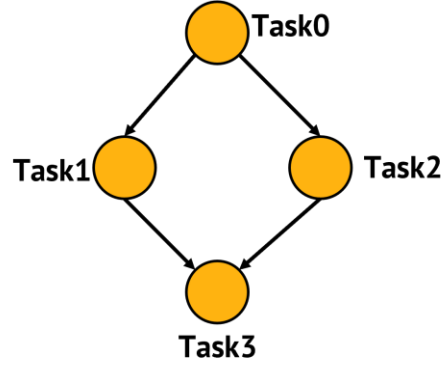
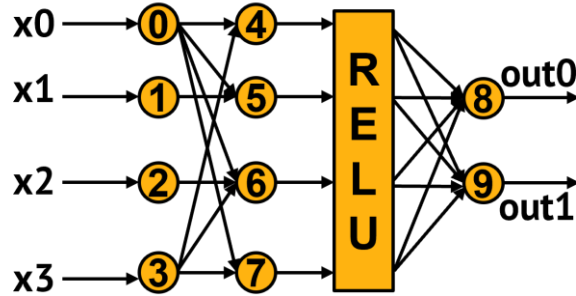

Figure 1: Structure of the Graph
Figure 2: Structure of the Neural Network with fully connected layers. The figure does not show all the connections for brevity.
Graph Neural Network (GNN) is widely used for classification problems. In simple words, GNN consists of nodes. Each node implements a neural network. The nodes are connected with directed edges. The graph represents a wireless application comprised of 4 tasks in this project. Figure 1 shows the diagram.
The neural network embedded in each node in Figure 1 has 4 inputs, 4 neurons in the hidden layer, and 2 outputs (each corresponding to a core), as shown in Figure 2. The neural network consists of multiply and accumulate operations as well as ReLu operations. For example, the output of neuron 4 (y_4) is computed as $y_4 = \sum_{i=0}^3 x_i \times w_{i4}$, where w_{ij} denotes the weight for the link between neuron i and neuron j . The outputs of layer-1 operation go through ReLu operation, where $ReLu(x) = \max(0, x)$.
The objective of MS-1 is to implement the inference of the neural network embedded in each node (Figure 2) using HDL (Verilog/System Verilog). Assume that all inputs are 5 bits and output values are 17 bits. Also, assume all inputs and the weights are signed. The most
- **out0, out1** are the outputs as shown in Figure 2.
Graph Neural Network consists of aggregation and combination operations. The operations take place for each node of the GNN. First, for each node, the features of that particular node and the neighboring nodes are aggregated. Let us assume f_i^k denotes the features for Node- k (Task- k in Figure 1). In our case, $i = 0,1,2,3$ (four features) and $k = 0,1,2,3$ (four nodes/tasks). Node-0 is connected with Node-1 and Node-2. Therefore, the aggregated feature for Node-0 is $F_i^0 = f_i^0 + f_i^1 + f_i^2$. F_i^k denotes the aggregated feature at Node- k . The aggregated features are the inputs to the DNN of the corresponding node. After the layer-1 operation happens, the outputs of the layer-1 for each node are aggregated in same